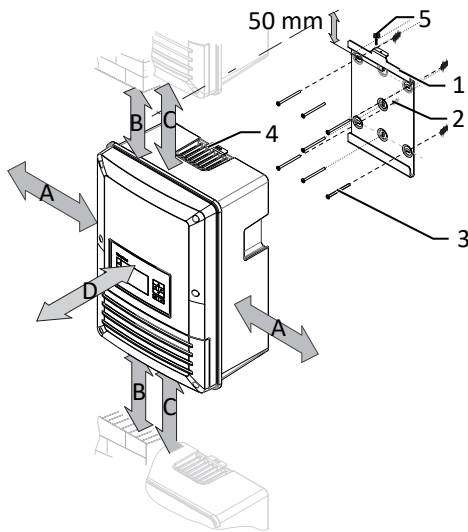

Fig. 12: Minimum clearances for wall mounting
3. Insert the screw provided into the lug of the mount and secure the device to prevent it from being lifted off [X X Z2 (Pozidrive) /  2 Nm] [See figure 12 [▶ Page 18].